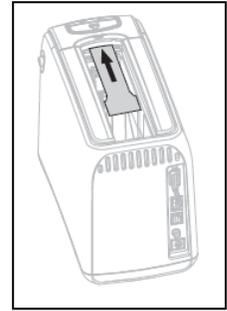

Figure 5
- 5 Refer to Figure 5. Insert the cleaning card into the media chute until ¼ inch is visible from the front of the printer.